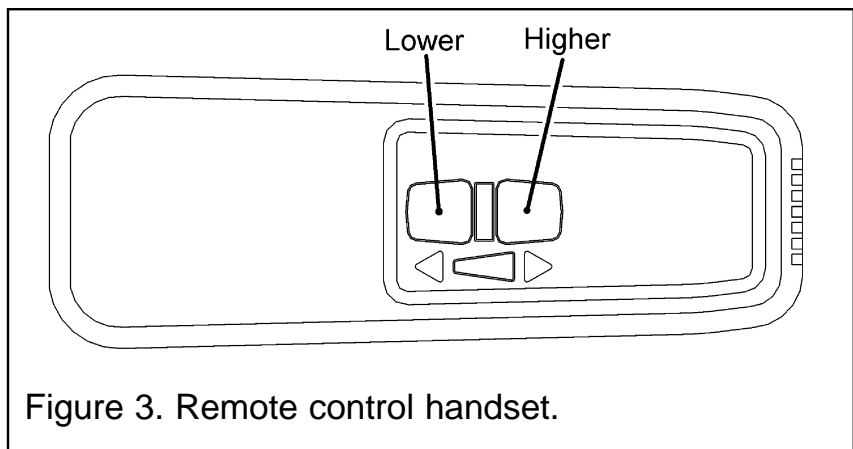

Figure 3. Remote control handset.
1. Keep the pilot burner at the "main burner on" position. Check the full range of main burner heat settings using the remote control handset. In order to vary the flame effect between High and Low positions, press, and keep depressed, either the High button, or the Low button as appropriate (See figure 3).